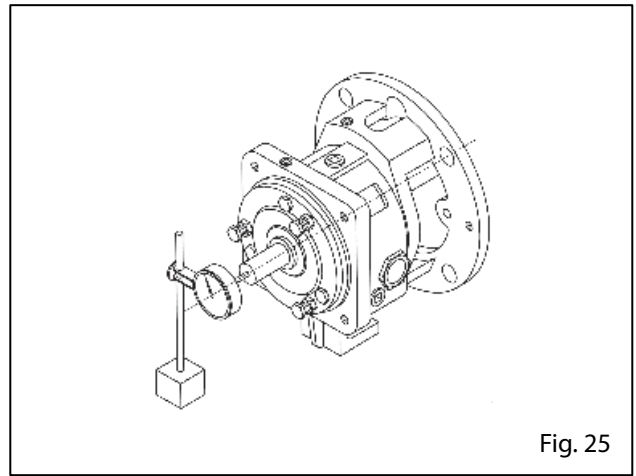

Fig. 25
- 2.- The dial indicator is set at the end of the shaft, the gauge sensor must make contact with the shaft's flat face (see Figure 25).